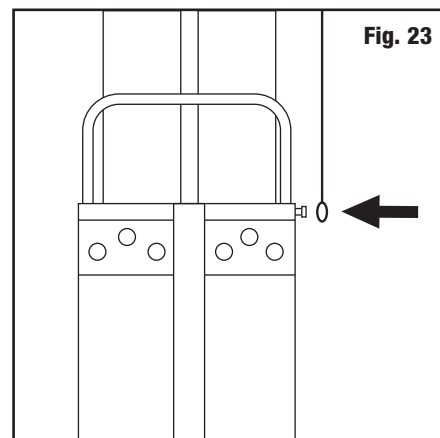

Fig. 23
2. Hook Counter-Balance Weight Bag onto cable post located on right side of cutting head (Fig. 23).